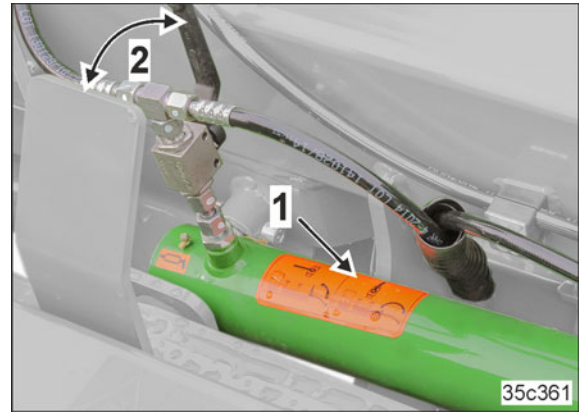
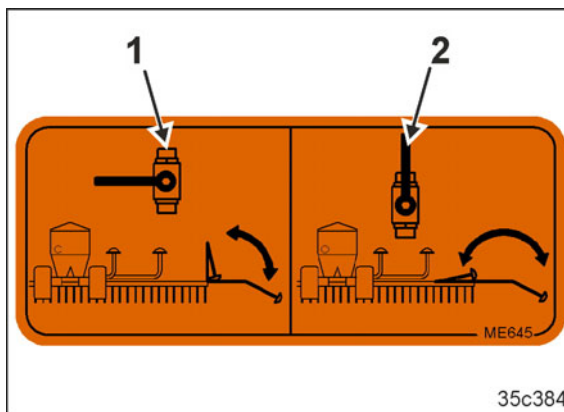

Fig. 235
Fig. 237
The valve lever (Fig. 235/2) is used to pre-set the desired track marker changing (Fig. 235/1).
1. The valve lever (Fig. 235/2) is in position 1 (Fig. 237/1)
3. The valve lever (Fig. 235/2) is in position 2 (Fig. 237/2)
1. Both valve levers (Fig. 235/2) are in position 2 (Fig. 237/2).